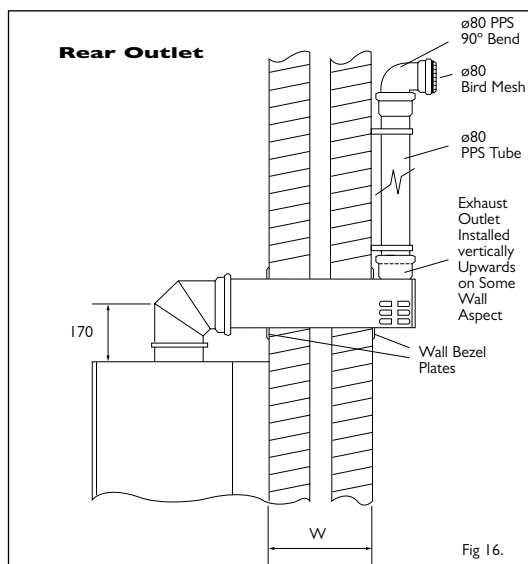

Fig 16.
1. Measure wall thickness W in mm - see fig 16.